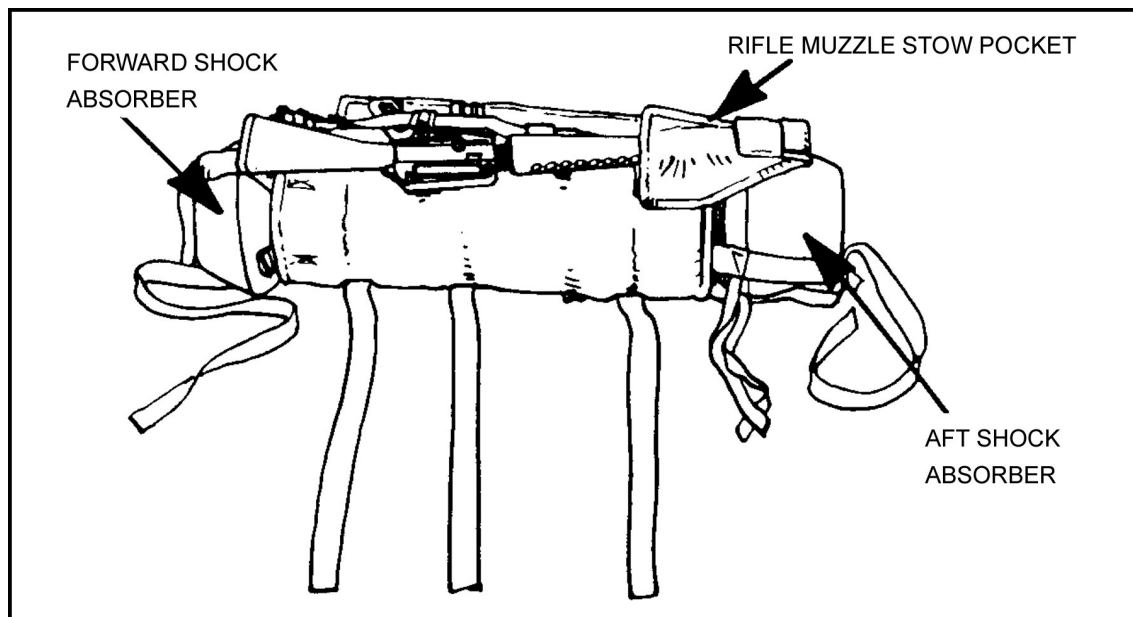

Figure 12-32. Rifle positioned.
- (1) Insert a 20-round magazine into the magazine well (optional).
- (2) Secure a 30-round magazine to the weapon sling, using adhesive tape (optional).
- (3) Position the rifle on top of the pack, on top of the missile bipod, by inserting the rifle muzzle into the rifle muzzle stow pocket. The butt of the rifle pistol grip lies along the inner edge of the jump pack (Figures 12-32 and 12-33).